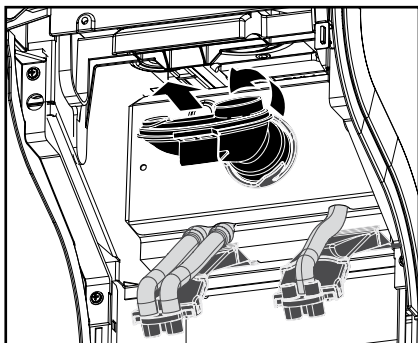

Fig. 27
- d. Rotate the mixing bowl counter-clockwise to release it and remove it with the sealing ring (fig. 27).